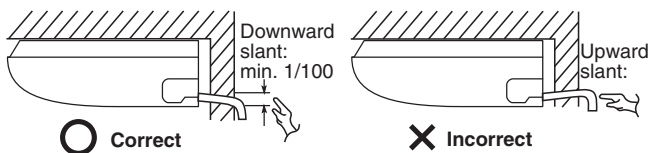

Fig. 3-22
- Connect the drain pipe so that it slopes downward from the unit to the outside. (Fig. 3-22)